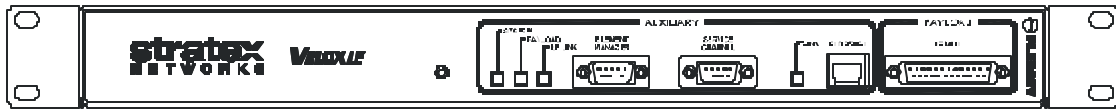

Figure 8-8. Velox LE (120 Ohm) DIU
- Velox LE (120 Ohm) (scaleable up to 4 T1/E1) (see Figure 8-8 below).